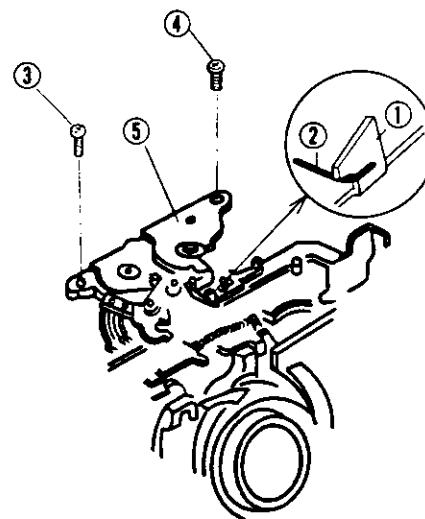

Fig. 6
- (1) Take off the Screw (P. 28 No. 37) and remove the Flash plate (P. 28 No.36).
- (2) Remove the Spring (No. 2) from the SW Lever (No. 1) shown in Fig. 6.
- (3) Take off two Screws (No. 3, 4) shown in Fig. 6.
- (4) Remove the S. gear hold u. (No. 5) shown in Fig. 6.
- (4) Put the S gear hold u. (No. 4) with two Screw (No. 5).
- (5) Set the spring to the SW. lever shown in Fig. 6.
- (6) Put the Flash plate (P. 28 No. 36) with the Screw (P. 28 No. 37).